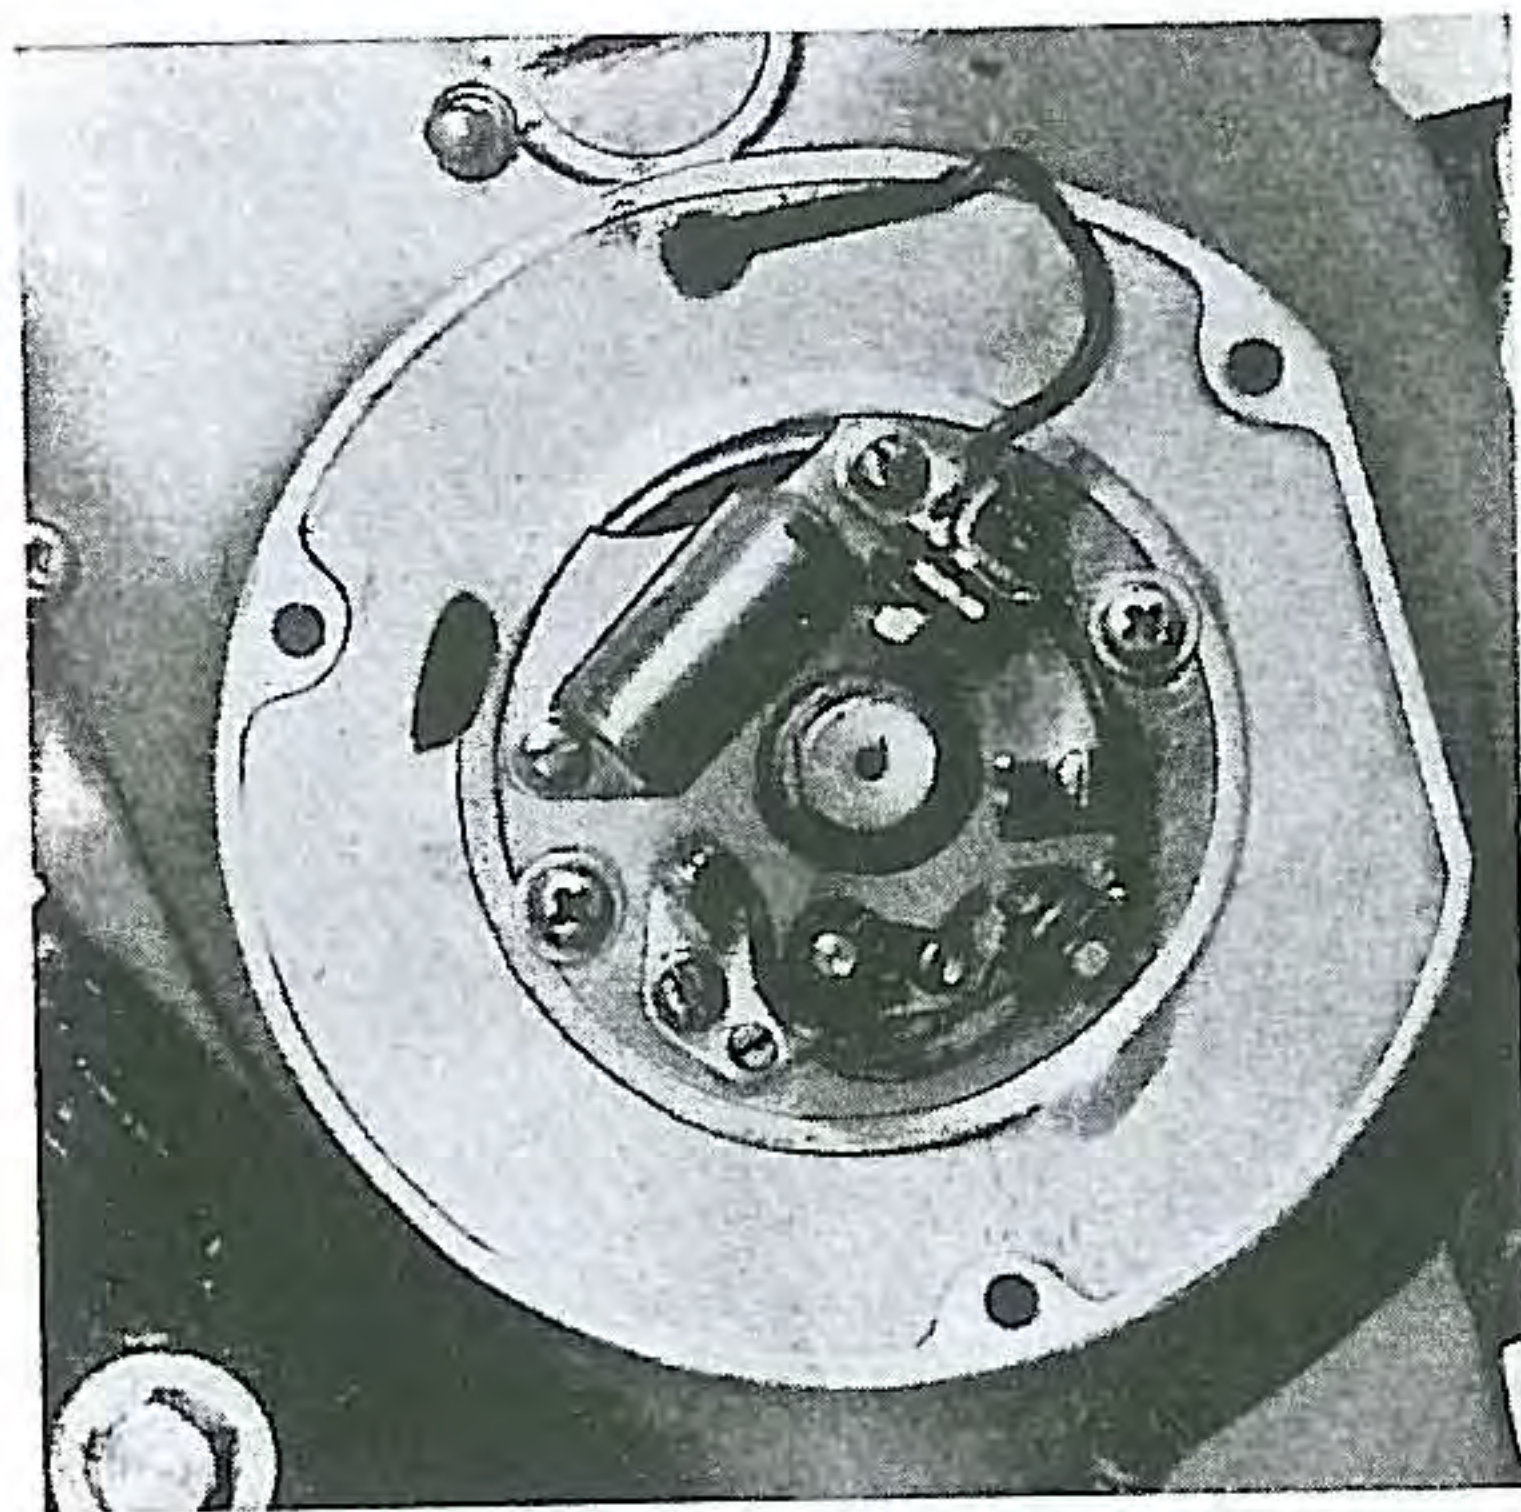

Fig. 22. Primary wire at contact breaker
- (1) Remove the contact points cover and disconnect the green colored electric wire at the junction on the plate (Fig. 22). Then the left crank case cover with attached contact plate is removed by unscrewing the cross-recessed screws retaining the cover.
- (2) Remove the 8mm bolt that attaches the spark advancer. In this operation apply a hammer on the end of wrench by an impact anticlockwise, otherwise the bolt will not release owing to its rotation in the same direction as the crankshaft.